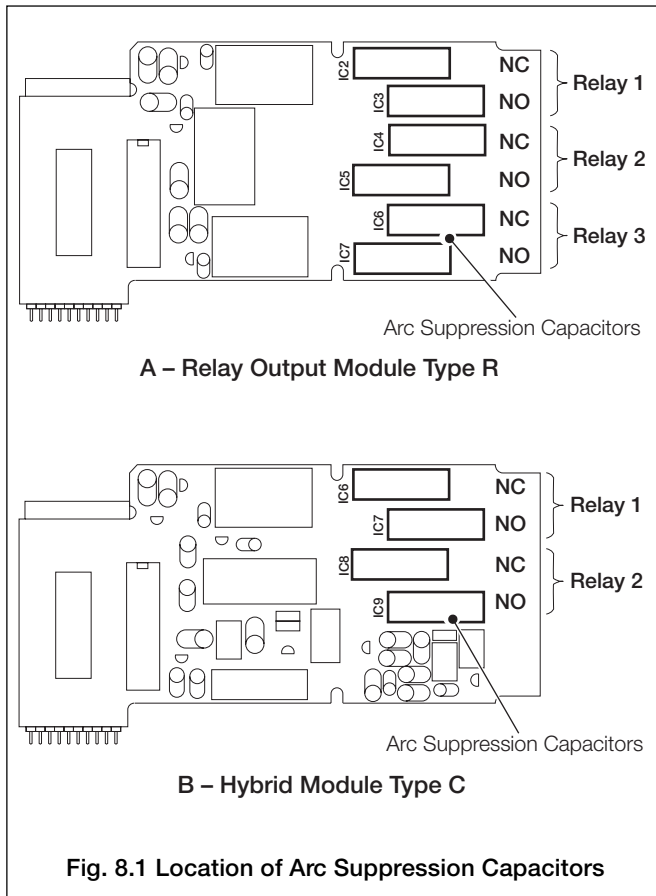

Fig. 8.1 Location of Arc Suppression Capacitors
8.1 Arc Suppression Capacitors – Fig. 8.1
Arc suppression capacitors are fitted across the contacts of the alarm/control relays. If these contacts are used to operate external relays, the capacitor leakage current may be sufficient to prevent the external relay from de-energizing. If so, switch off the power supply and external alarm circuits. Identify the appropriate relay module and remove it – see Fig. 8.1.
Unsolder and remove the appropriate capacitors, shown in Fig. 8.1 and refit the module.